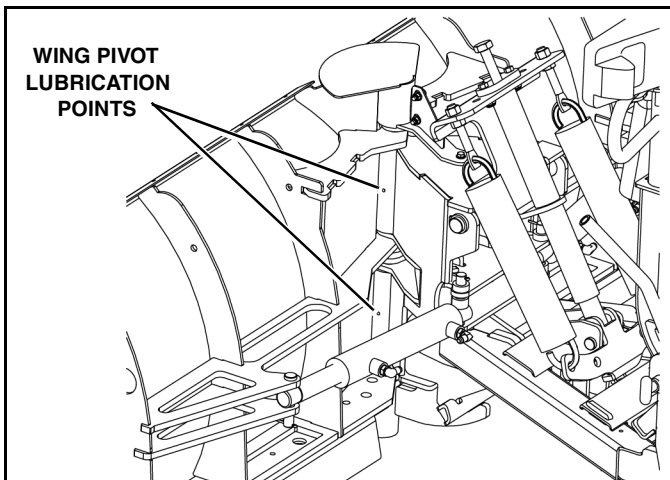

Figure 1-2
5. Apply oil or grease to the wing pivot pin through two lubrication holes provided in the pin housing. (See Figure 1-2)